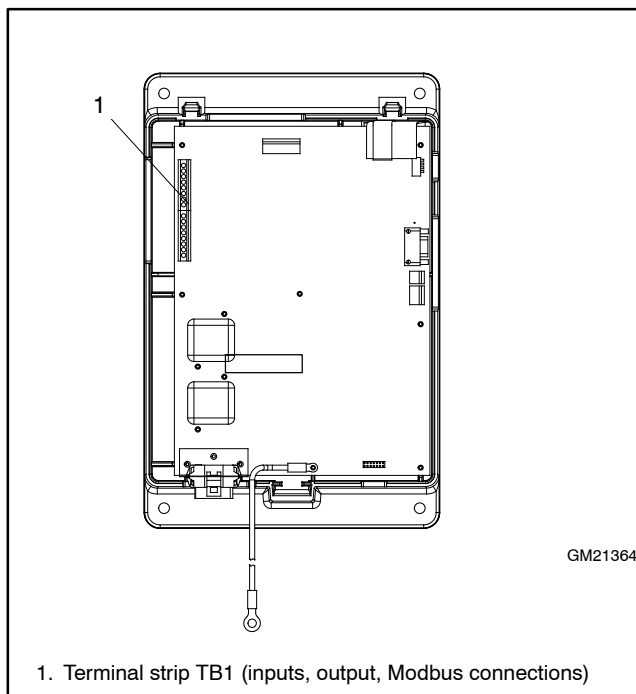

Figure 10-2 ATS Controller, Cover Removed
2. Open the controller housing and locate terminal strip TB1. See Figure 10-2.